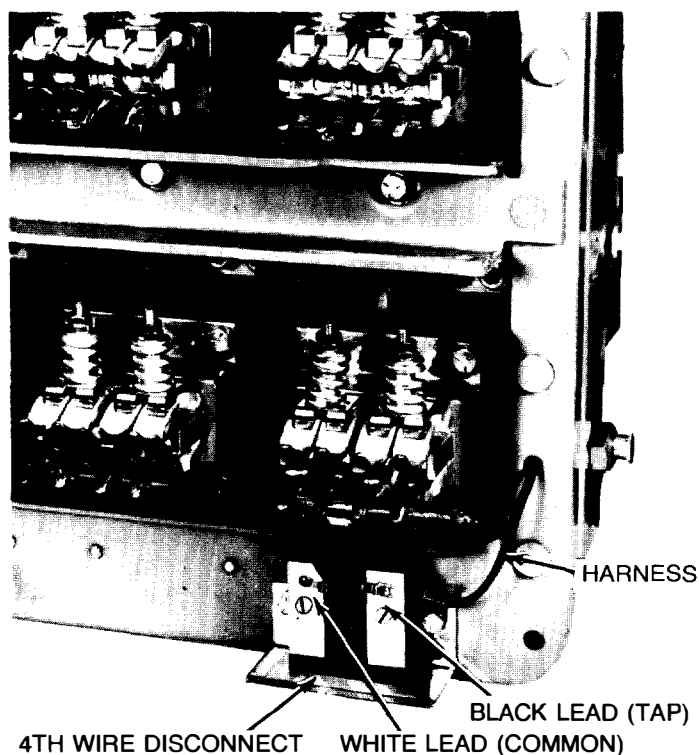

Figure 4-1 4th Wire Disconnect Breaker Mounted
The 4th wire disconnect is mounted to the lower rear back frame on the centerline of the left pole as shown in Figure 4-1.
2. If the disconnect is being added, mount the disconnect assembly and run the control harness as shown in Figure 4-1.